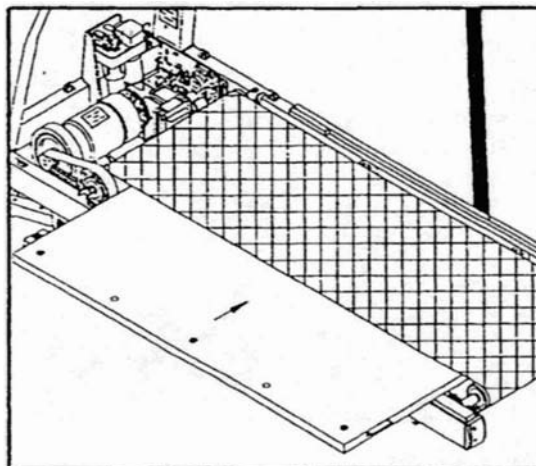

Fig.9
3. Replace the running deck.(see Fig.9)